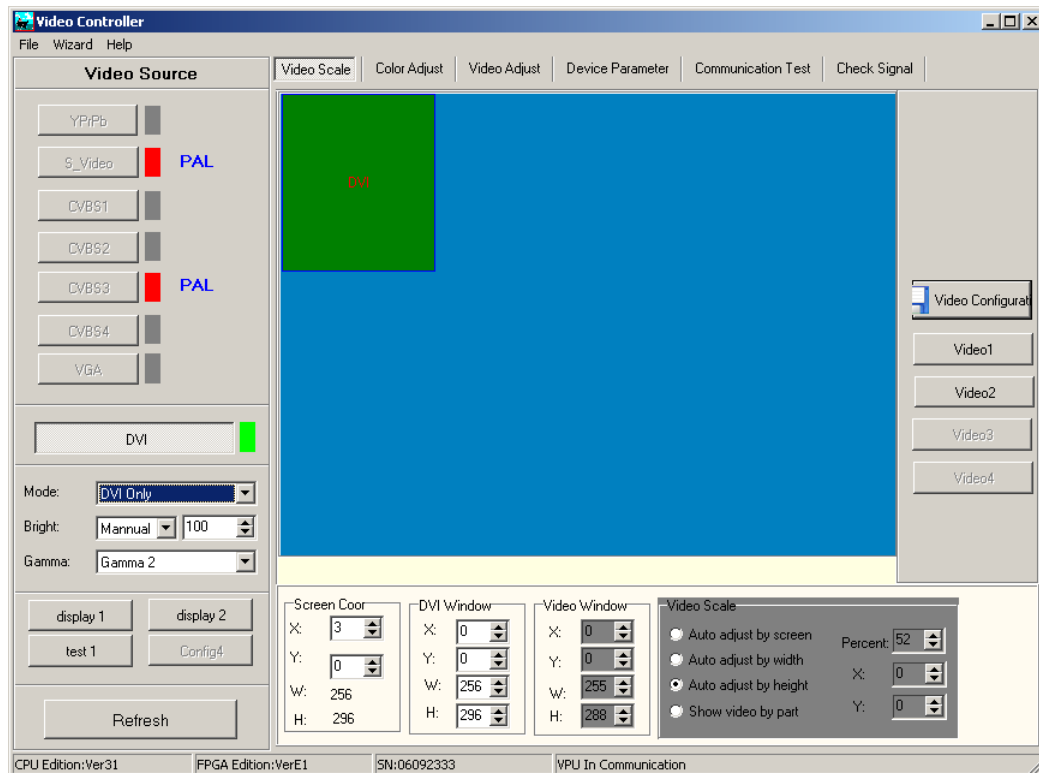

FIGURE2.1 VPU3000 control software's operation interface
2.2.3 VPU3000 control software will read VPU's configuration automatically and enter the software interface successfully, as long as there is no clues for mistake. The software interface is as FIGURE2.1 shows.